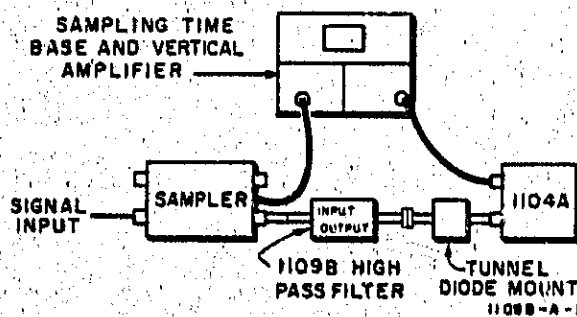

Figure 2. Typical Application
7. A typical operating setup using Model 1109B in a high frequency sampling application is shown in Figure 2. The high pass filter is connected between the sampler and applicable tunnel diode mount used with the Model 1104A/1106B Trigger Countdown. (Refer to the Model 1104A/1106B/1108A Operating Note.) The filter passes signals above 1 GHz, while blocking lower frequencies. The high pass filter offers a constant 50-ohm impedance to the signal source. The Model 1109B is equipped with connectors that will mate directly with Model 1106B Tunnel Diode Mount connector. When setting up the equipment, ensure that all connections are properly secured. Loose connections can cause undesirable reflections and corresponding signal degradation.